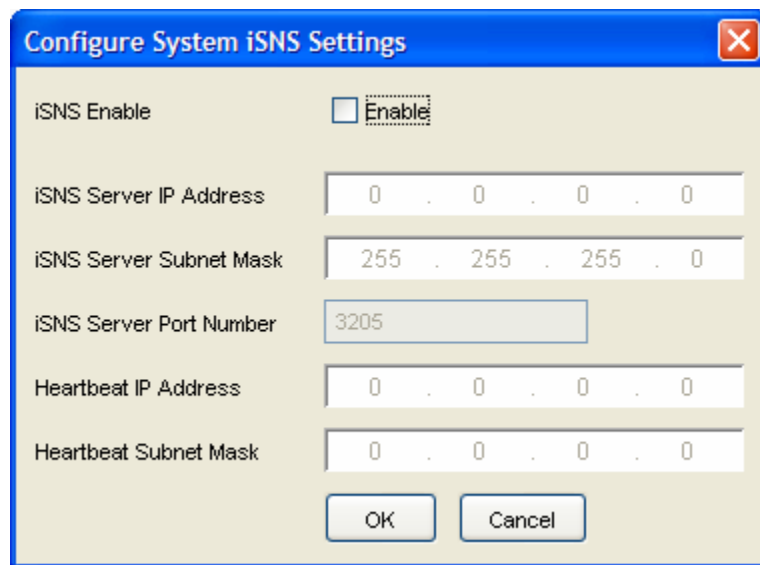

Figure 5-41. Configure System iSNS Dialog Box
1. On the **File** menu, click **Configure System iSNS**. The Configure System iSNS dialog box appears (see Figure 5-41).